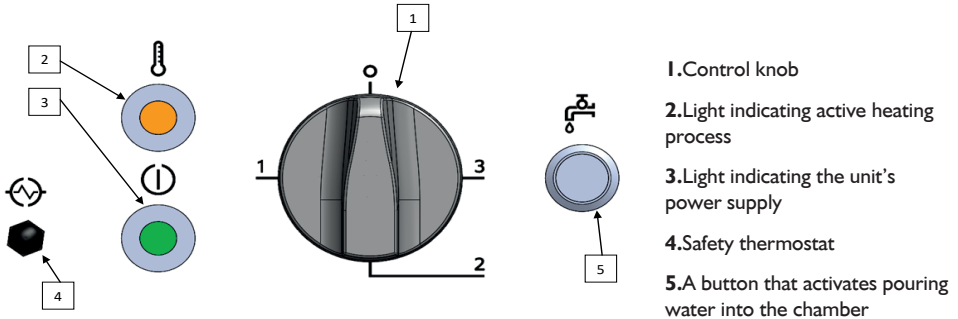

Figure 6. Device controls
- Prior to operation, the control knob (Fig.6 Pos. 1) should be set to "0" .
- Pour water into the unit using a spout (Fig. 1 pos 6) to the level indicated in the chamber. The water is started using the button on the control panel (fig.6 pos. 5). **Do not turn on the device without water in the chamber!**
- To switch off the unit, set the knob to "0" clockwise (the indicator light goes off as in Fig.6 Pos. 2).
- The device has been additionally fitted with a safety thermostat protecting the heaters against blowing. If water boils out or you turn the device on without water in the tank, the device will automatically switch off when the heaters reach excessive temperatures. In case of triggering the safety thermostat, wait a few minutes, unscrew the nut and press the button (Fig.6 pos. 4) to restart the device.